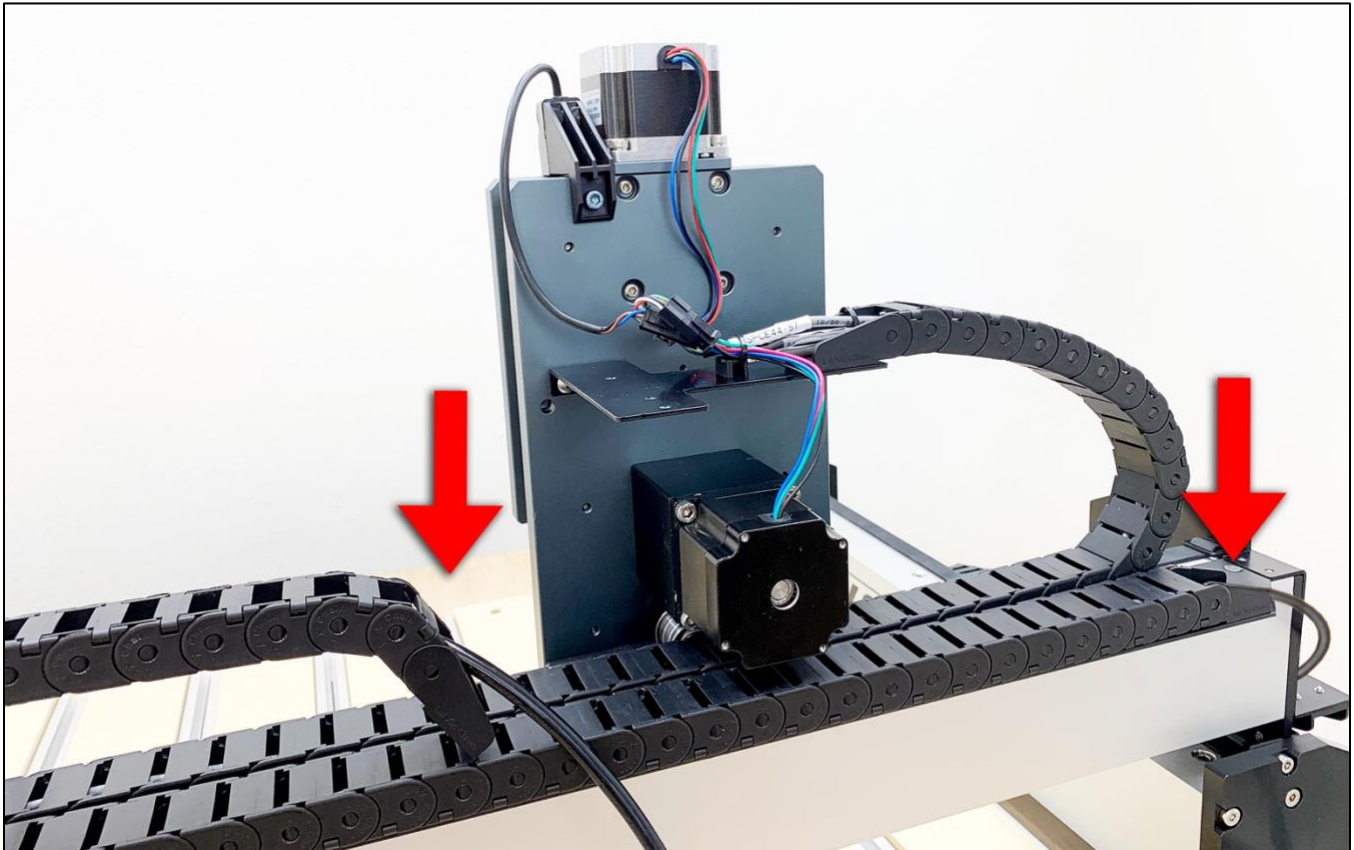

Figure 3
6. Remove the X-Axis router drag chain. See **Fig. 3**.